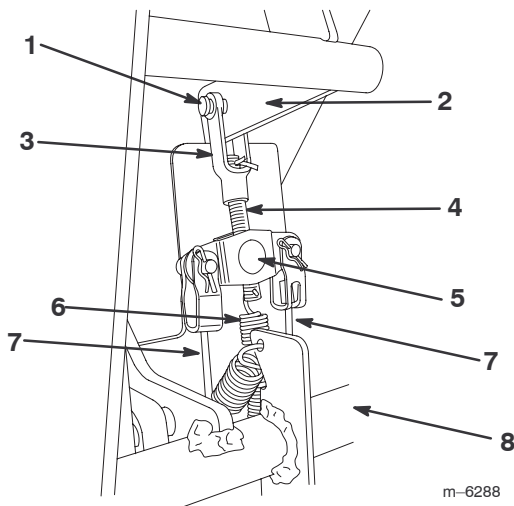

Figure 31
2. Depress brake pedal lightly (10-15 lb) until resistance is achieved. Check the gap between the brake lever shown in Fig. 31 and the stop to determine the distance the brake equalizer needs to be adjusted.
3. Remove the pin securing the brake rod clevis (Fig. 31).
4. Disconnect the spring from the end of the brake rod (Fig. 31).
6. Thread the brake rod in or out of the brake equalizer as needed to remove the slack from the brake cables (Fig. 31). Do not overtighten the cables.
7. Install the spring into the hole in the brake rod (Fig. 31).
8. Connect the brake rod clevis to the brake lever using the clevis pin and hairpin cotter removed previously (Fig. 31).